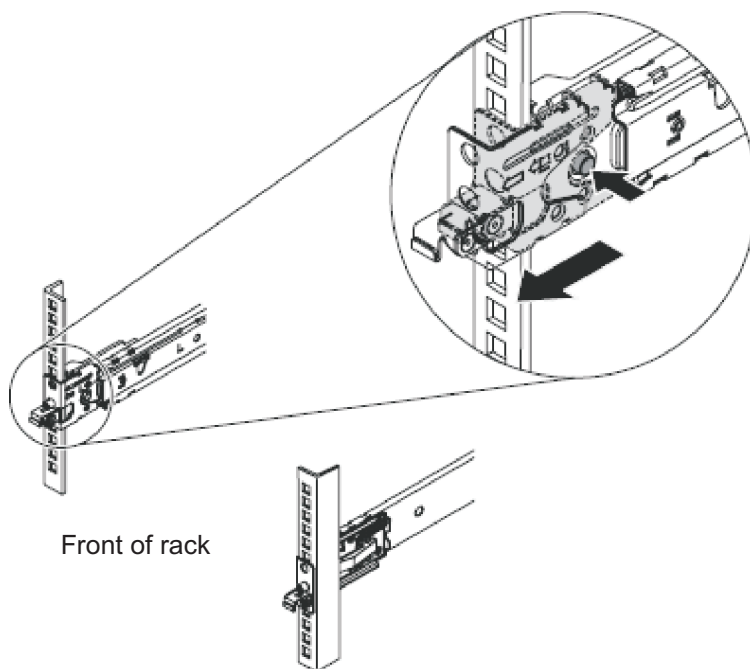

Figure 41. Removing the front end of the slide rails
3. Remove the front end of the slide rails, as shown in Figure 41.
4. Remove the rear end of the slide rails, as shown in Figure 41.